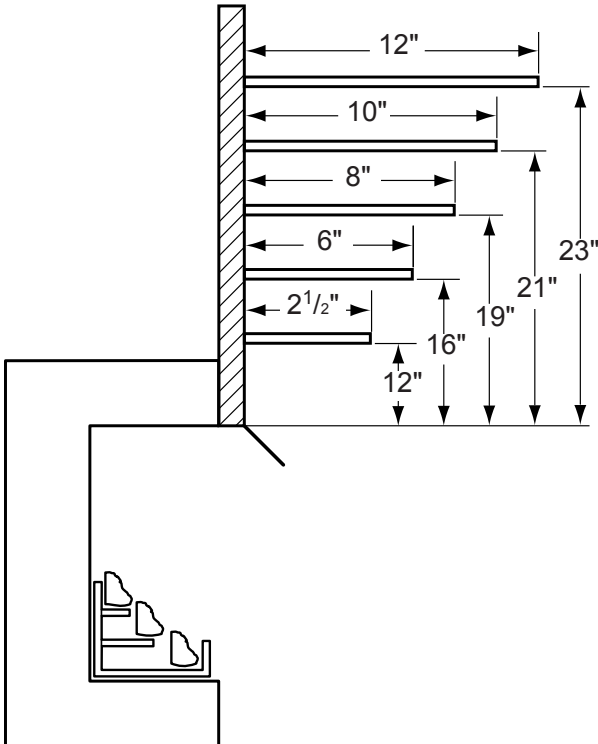

Figure 5 - Mantel Clearances
4. **Mantel clearances:** The canopy supplied with the unit must be installed. If a combustible mantel is installed, it must meet the clearance requirements as shown in Figure 5.